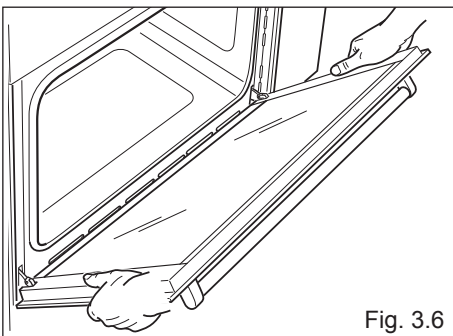

Fig. 3.6
3. Hold the door as shown in fig. 3.6.